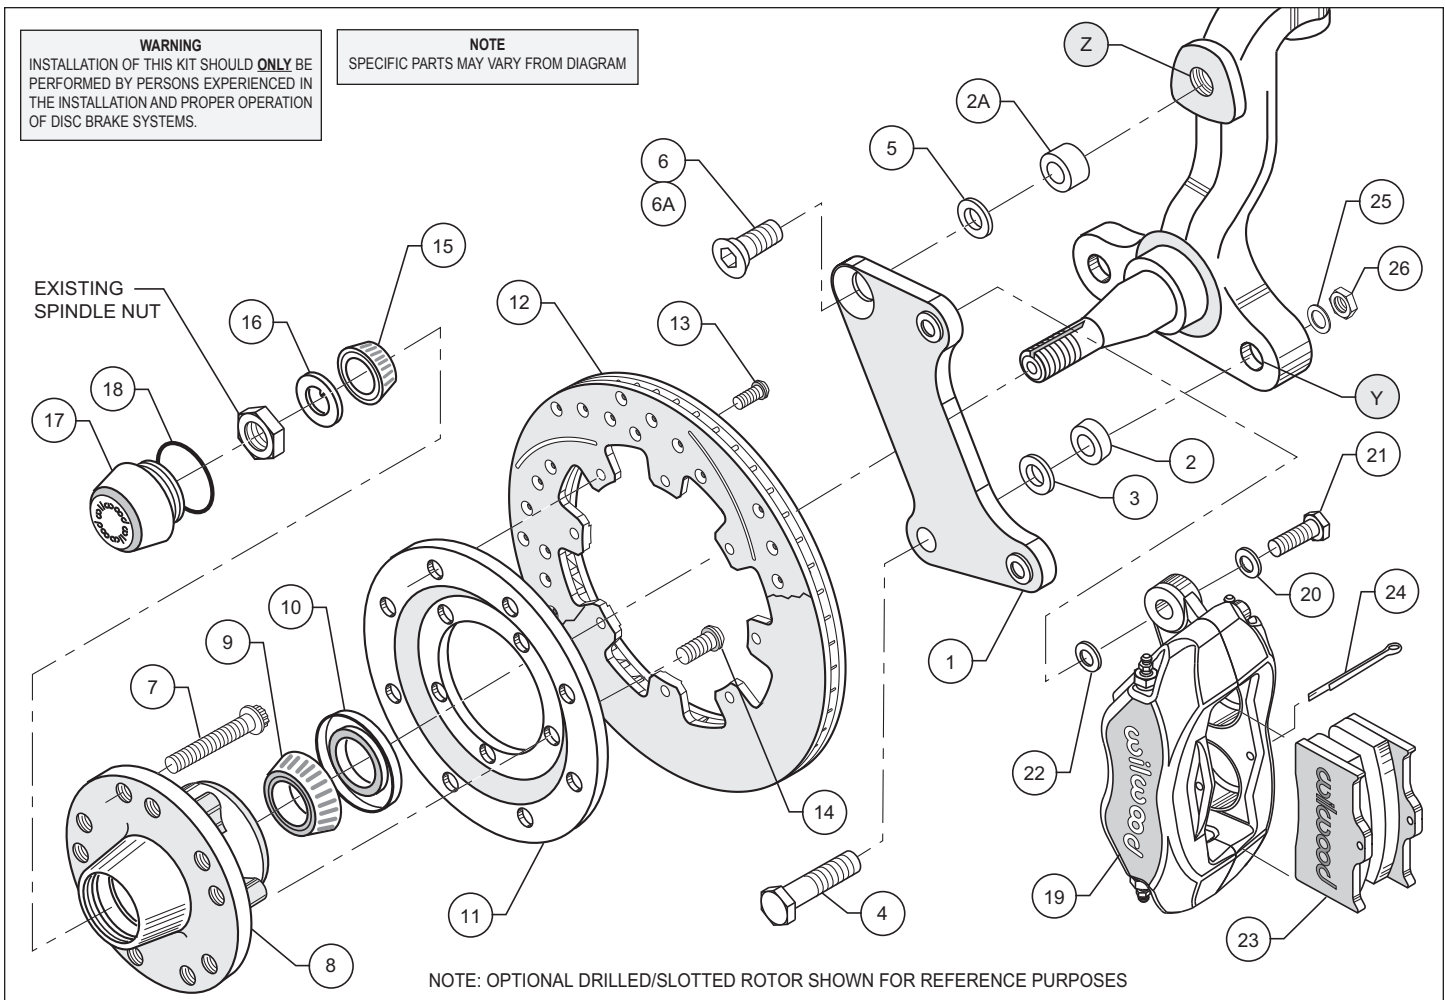
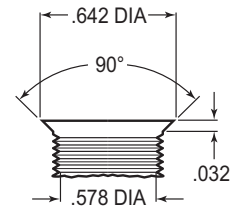

Figure 1. Typical Installation Configuration
Figure 3. Drill and Tap Detail
•**NOTE:** 1964-66 spindles may require the following modifications (reference Figure 1 and Figure 3): Top anchor pin hole (Z) must be drilled and tapped to the dimensions as outlined in Figure 3. Bottom rear steering arm bolt hole (Y) in the spindle and steering arm must be enlarged to .50" by drilling. A 1/2-20 backing nut (not supplied in kit) will need to be acquired to torque bracket / steering arm bolt (supplied in kit).
•Apply red *Loctite*® 271 to bolt threads (4 and 6, or 6A for disc spindle application) before assembly of the caliper mounting bracket (1). Mount bracket (1) to dust face plate of spindle using the bottom bolt (4) while positioning washers (2 and 3) between bracket and spindle face, then secure from the backside with washer (25) and nut (26), finger tighten only. Slide the upper bolt (6) through the bracket (1) and washer (5) (or, for disc brake spindle, use 6A with spacer 2A and washer 5 positioned between bracket and top hole of spindle face) and into the spindle, torque to 140 ft-lb. Torque bolt (4) to 85 ft-lb. **NOTE:** Be sure the heads of the bracket (1) insert nuts are facing outward toward the wheel.
•Install wheel studs (7) into the hub (8). Torque to 77 ft-lb. **NOTE:** There are two five lug patterns in the hub (5 x 4.50 and 5 x 4.75). Make sure of the correct hole pattern for the correct wheel application before installing studs into hub.
•Pack the large inner bearing cone (9) with high temperature disc brake bearing grease (available from your local auto parts store) and install into the backside of the hub (8).
•Install the grease seal (10) by pressing into the backside of the hub (8).
•Orient the rotor (12) and the rotor adapter (11) as shown in Figure 1. Attach the rotor to the adapter using bolts (13). Using an alternating sequence, apply red *Loctite*® 271 to the threads, and torque to 25 ft-lb.
•Mount the adapter/rotor assembly (11/12) to the hub (8) using bolts (14), as shown in Figure 1. Using an alternating sequence, apply red *Loctite*® 271 to the threads, and torque to 55 ft-lb.